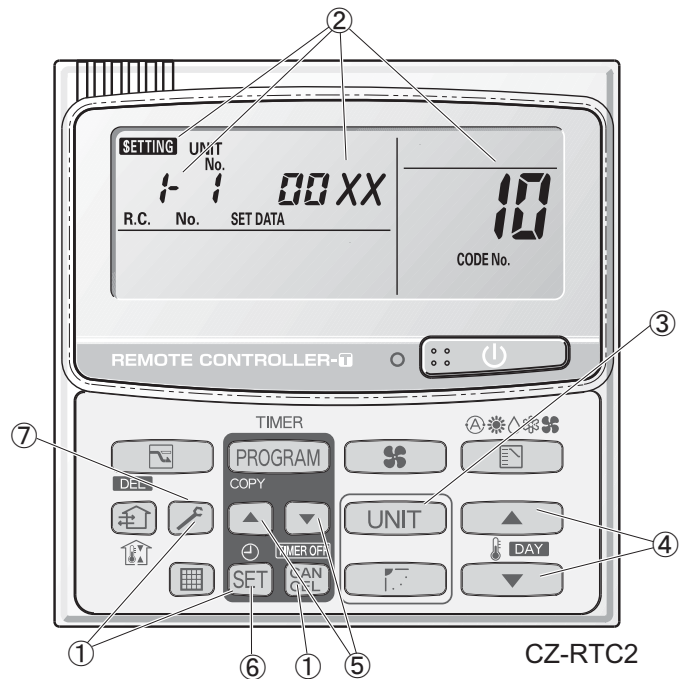

Fig. 7-3
- ① Press and hold the , **SET** and **CAN CEL** buttons simultaneously for 4 seconds or longer.
- ② "SETTING", unit No. "1-1" (or "ALL" in the case of group control), item code "10," and settings data "00XX" are displayed blinking on the remote controller LCD display (Fig. 7-3).